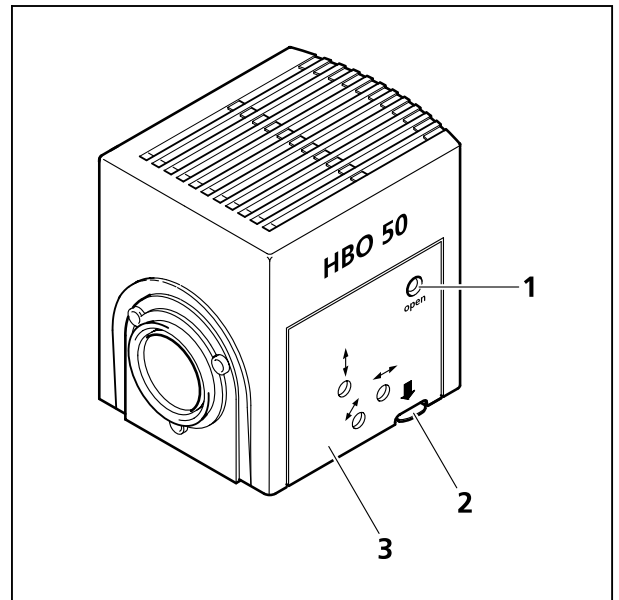

Fig. 3-27 Opening the HBO 50
- Loosen the clamping screw (Fig. 3-27/1) with the ball head screwdriver SW 3.
- Press down the release button (Fig. 3-27/2) of the HBO 50, pull out the lamp carrier (Fig. 3-27/3) and set it aside.
- Insert lamp carrier into lamp case and slide until it engages. Tighten the clamping screw (Fig. 3-27/1).